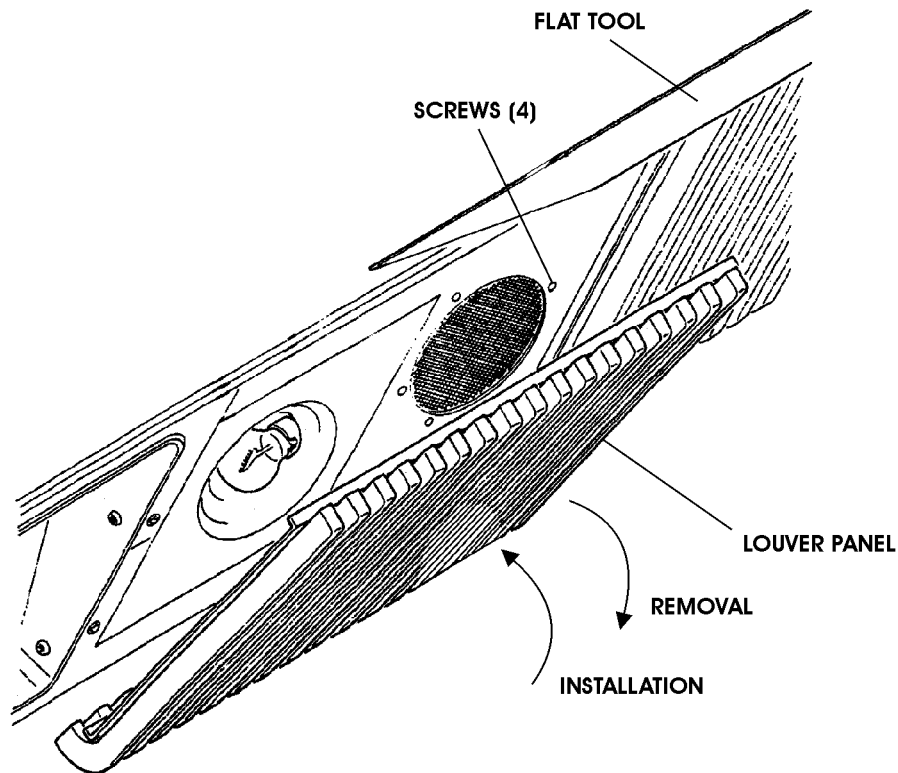

Fig. 202 - Speaker
4. Passenger Cabin Speakers - Removal (Refer to Fig. 2 and Fig. 202)
5. Passenger Cabin Speaker - Installation (Refer to Fig. 2 and Fig. 202)